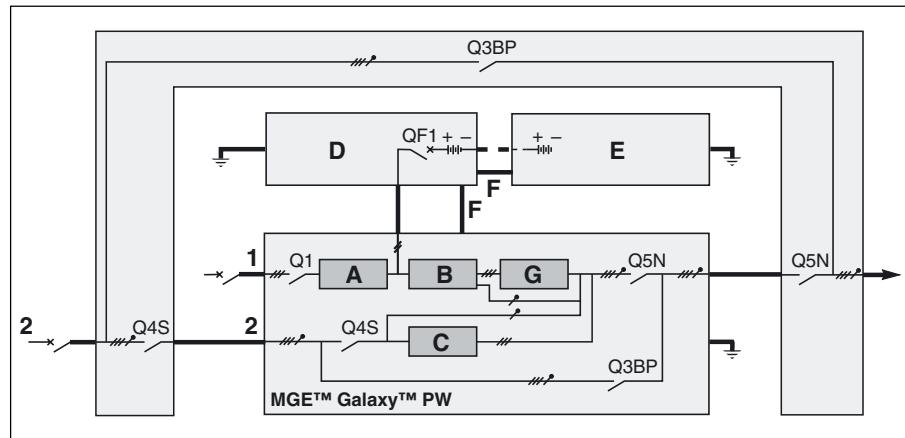
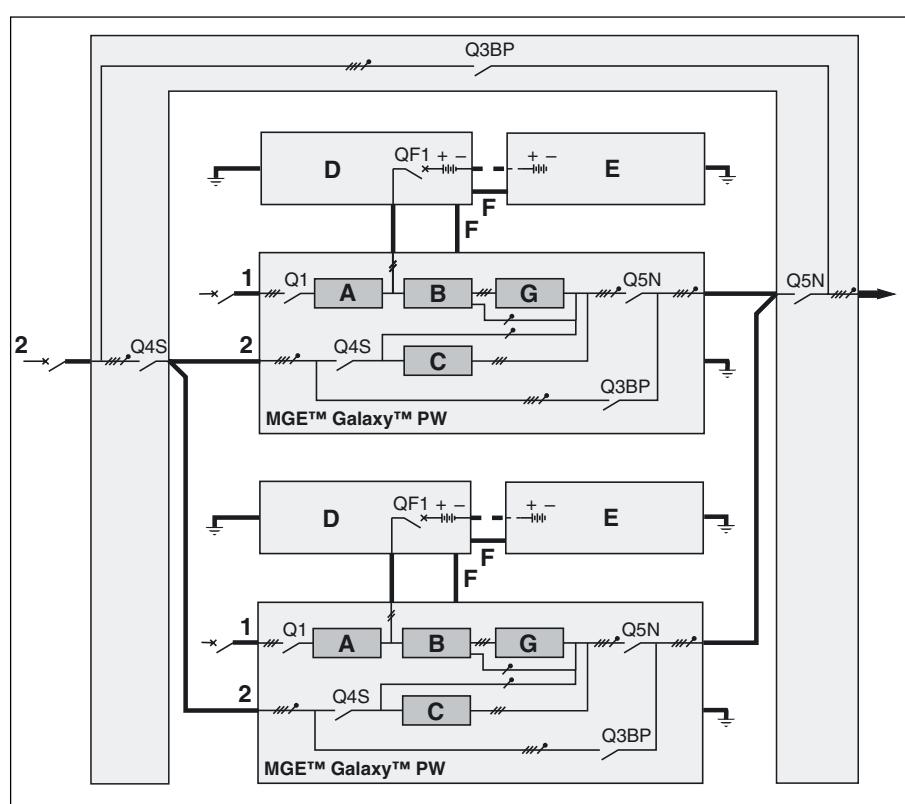

Fig. 20
Fig. 21
► see figure 20 for the power-circuit connections of a single-UPS unit and figure 21 for the power-circuit connections of redundant parallel UPSs. Power cables for UPS-to-bypass connections are not supplied.